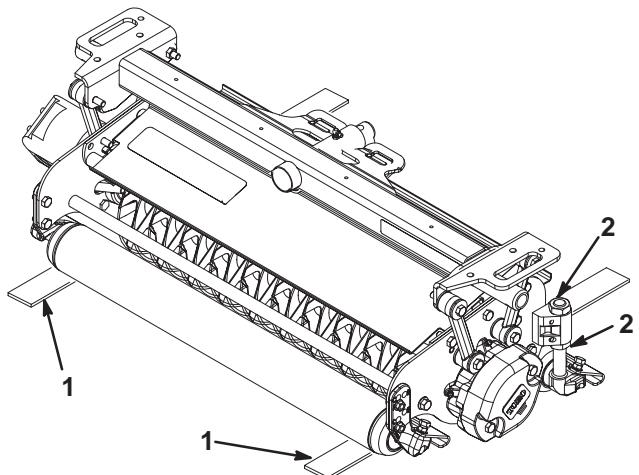

Figure 3
2. Place 2 gauge bars, which have the desired depth of blade penetration below the ground, under the front and rear rollers of the verticutting reel (on each end of the reel) (Fig. 3).
3. Turn the adjusting nut on each height-of-cut bracket (Fig. 3) so that the reel blades come in contact with the level surface on both ends.